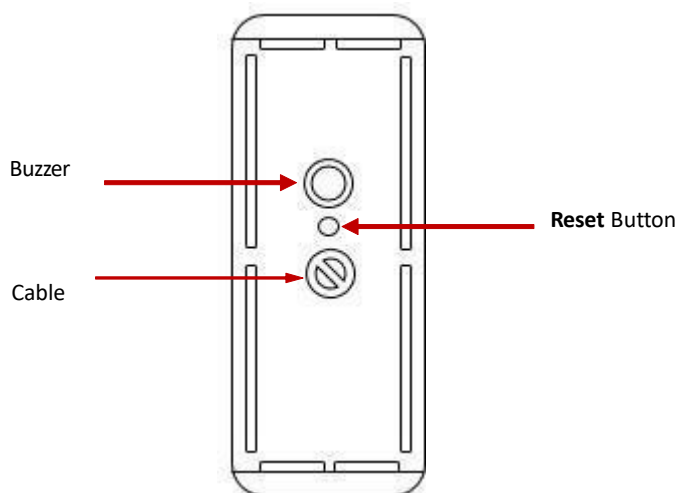

Figure 1: Reset button is located on the back of the reader between the buzzer and cable
1. To locate the reset button on the reader, dismount from the installation points. The reset button is located on the back of the reader, as depicted in Figure 1.
- To locate the reset button on the reader, dismount from the installation points. The reset button is located on the back of the reader, as depicted in Figure 1 on Page 9.